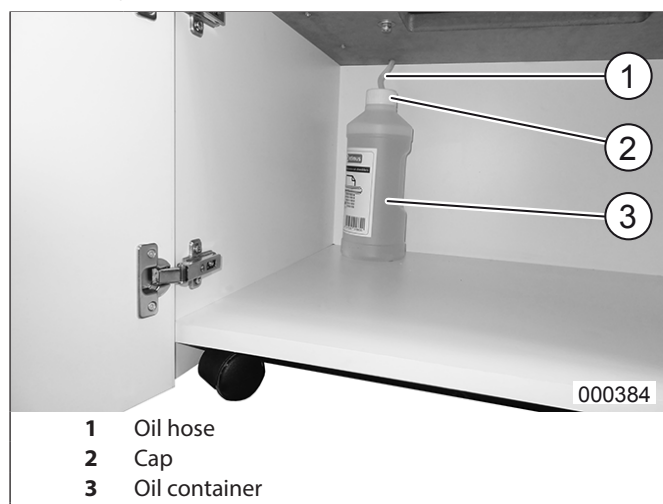

Fig.10 Oil container
If the control display (Fig.5/7) flashes, this means that the oil container (Fig.10/3) is empty and must be replaced with a full container. The motor switches off.
3. Change the oil container (Fig.10/3). To do this, unscrew the cap (Fig.10/2).